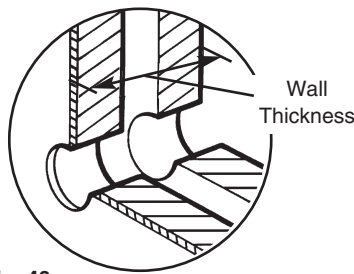

Fig. 46
2. Measure the thickness of the wall from the inside. This will be known as Wall Thickness (Fig 46).